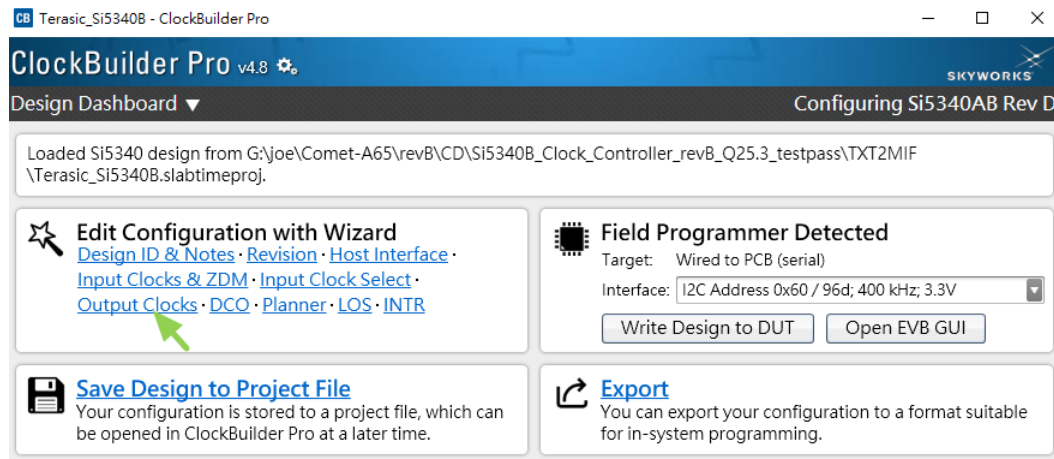

Figure 2-12 Click “Outputs” in CBPro
- As shown in **Figure 2-12**, click “Outputs” to open Output Clocks page.